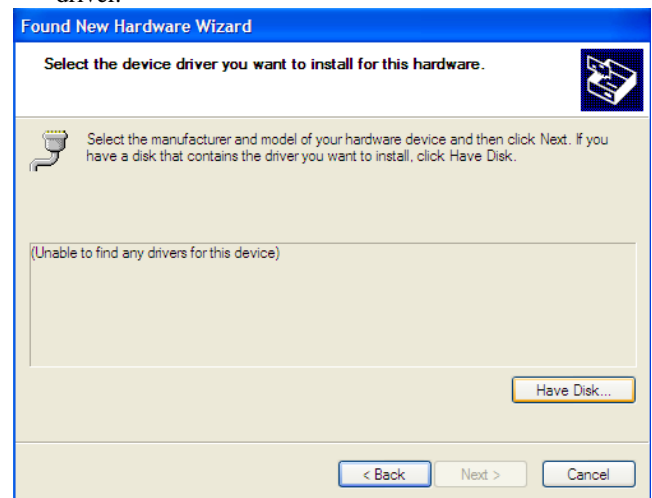

Figure 5. Select Hardware Driver
6. Click **Have Disk...** (See Figure 5) to select the device driver.